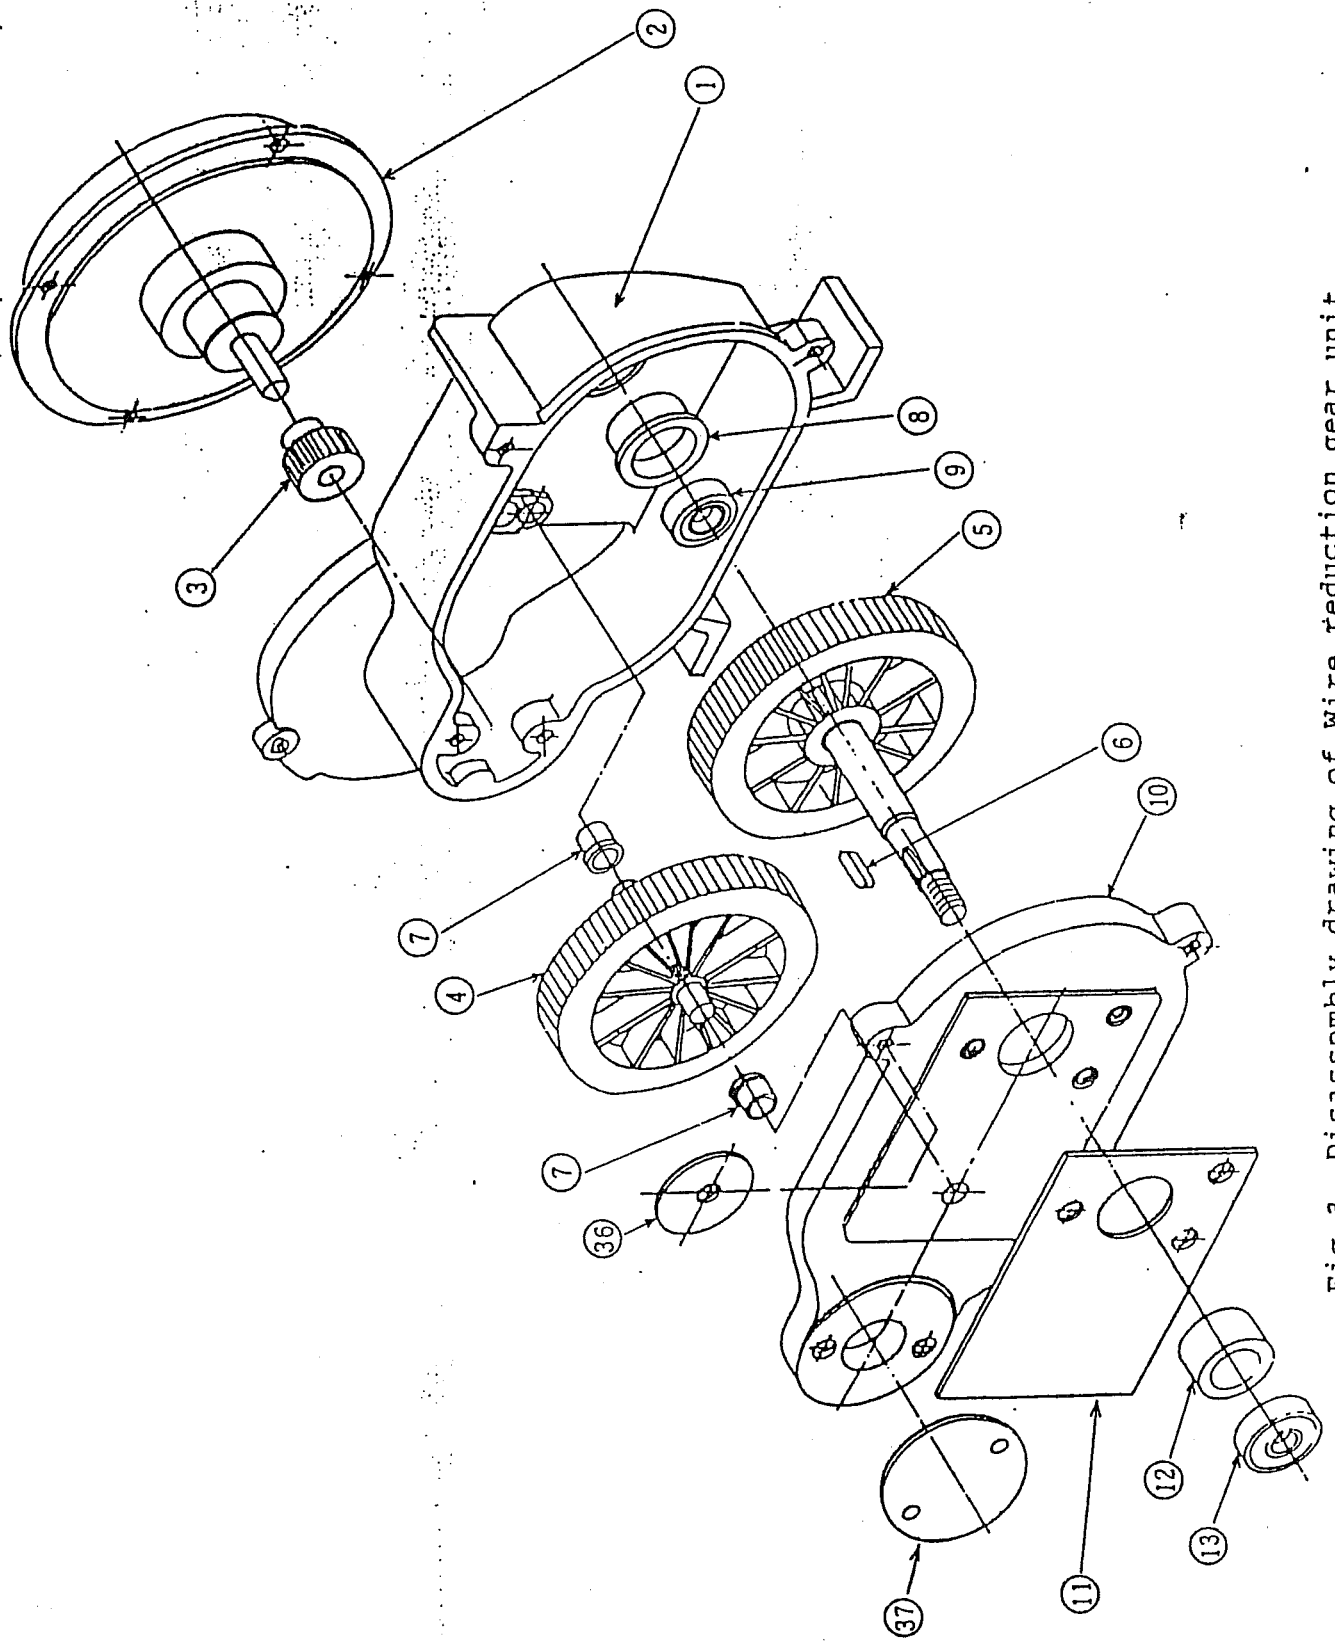

Fig. 3 Disassembly drawing of Wire reduction gear unit
7.1 Wire feeding reduction gear (See Fig. 3)